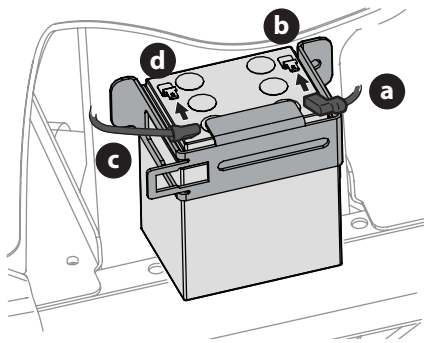

Figure 18
1. Plug the red cable (a) into the positive battery terminal (b) (Figure 18 on page 13).
2. Plug the black cable (c) into the negative battery terminal (d) (Figure 18 on page 13).